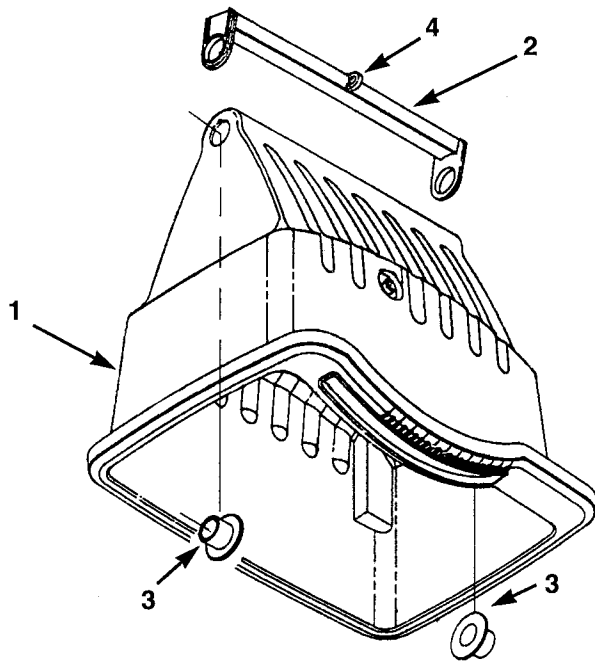

Figure 3
- B. Place the flow adjuster on the bottom of the hopper and align the holes. Make sure the tab on the flow adjuster is on the back side of the hopper (Fig. 3).
- C. Insert the two hopper bushings (Fig. 3) through the inside of the hopper and through the flow adjuster. Turn each hopper bushing until its key locks into place.